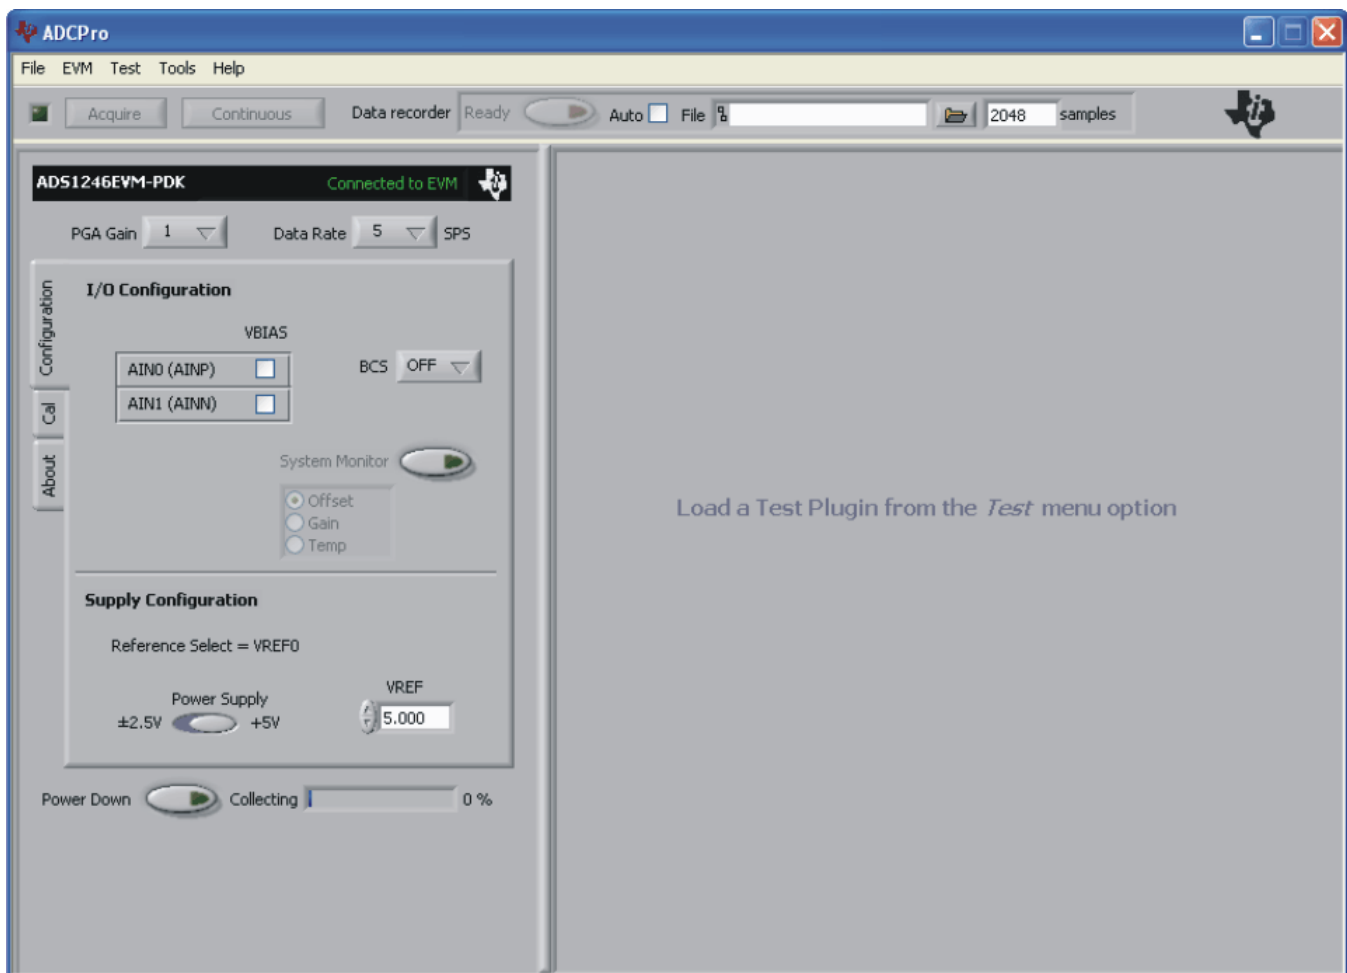

Figure 10. ADS1246EVM-PDK Plug-In Display Window
- Step 2. Select *ADS1246EVM* from the EVM drop-down menu. The ADS1246EVM-PDK plug-in appears in the left pane, as shown in Figure 10.